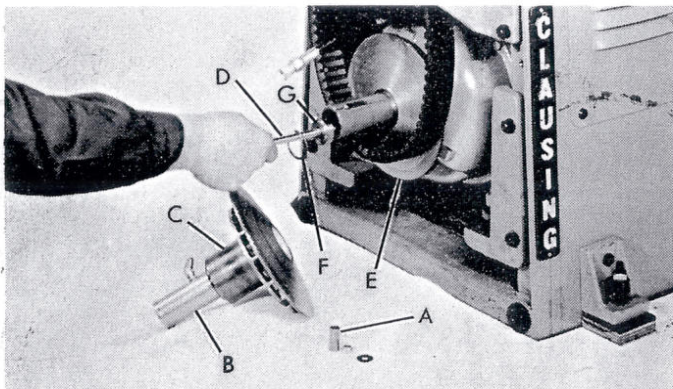
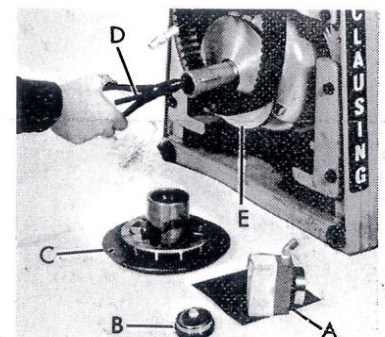

FIGURE 2
FIGURE 4
6. Remove sleeve (A, fig. 2) from hydraulic cylinder.
7. Pull hydraulic cylinder (B) with outer half of variable pulley (C) off shaft (D).
8. Press hydraulic cylinder (B) with bearing from outer half of variable pulley (C) being sure internal washer in pulley (snap ring on early models) remains in place.
**CAUTION:** Washer (snap ring on early models) must be in place in outer half of variable pulley (C, fig. 2) before installing bearing and housing assembly (A, fig. 4). An extra washer is supplied to aid in assembly if necessary.
9. With snap ring pliers, remove snap ring (F, fig. 2) from inner half of variable pulley.
10. Remove shaft (D) and bearing (G) from inner half of variable pulley (E).
2. Insert new shaft and collar assembly (D, fig. 4) into inner half of variable pulley (E) being sure pin in the collar lines up with key way in pulley (E), secure with retainer ring.